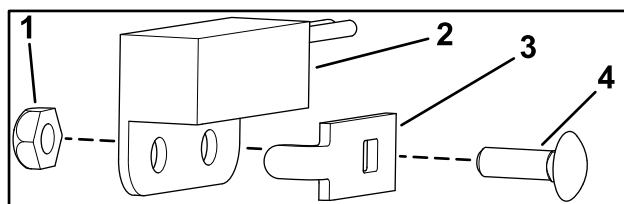

Figure 1
1. Install the proximity switch to the slot in the transaxle bracket using the switch plate, carriage screw (#10 x 5/8 inch), and locknut (#10) as shown in Figure 1.